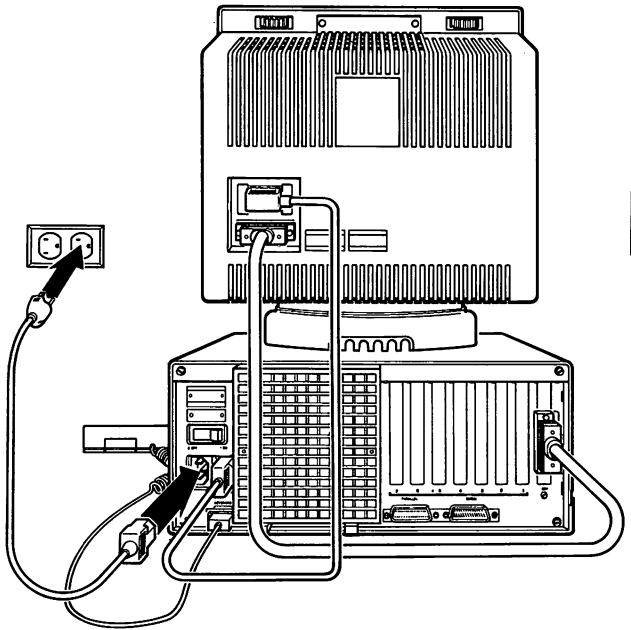

Figure 1-19. Location for the main power cord.
- Connect the female end of the main power cord to the main power socket on the back of the processor (Fig. 1-19).